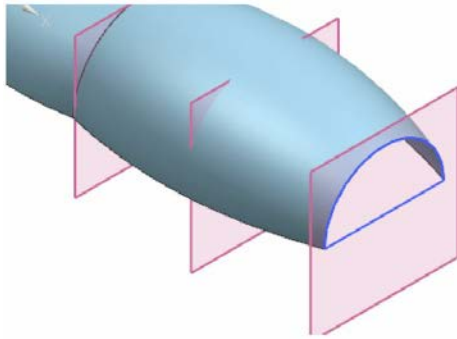

Figure 11-93 Closed sketch to create a bounded plane surface
- Create a bounded plane surface to close the right face of the base surface, refer to Figures 11-93 and 11-94.
2. Draw a closed sketch to create the bounded plane surface, as shown in Figure 11-93.